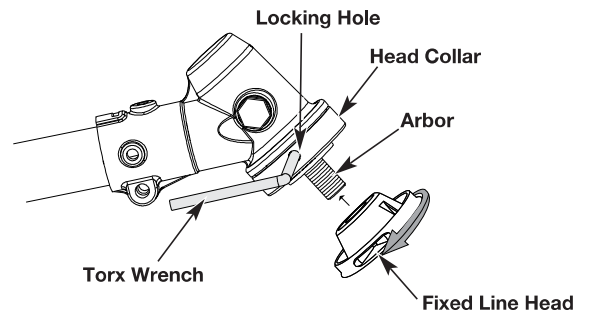

Fig. 18a
4. Screw the fixed head counterclockwise onto the arbor until securely tightened (Fig. 18a). Remove the Torx wrench from the locking hole.